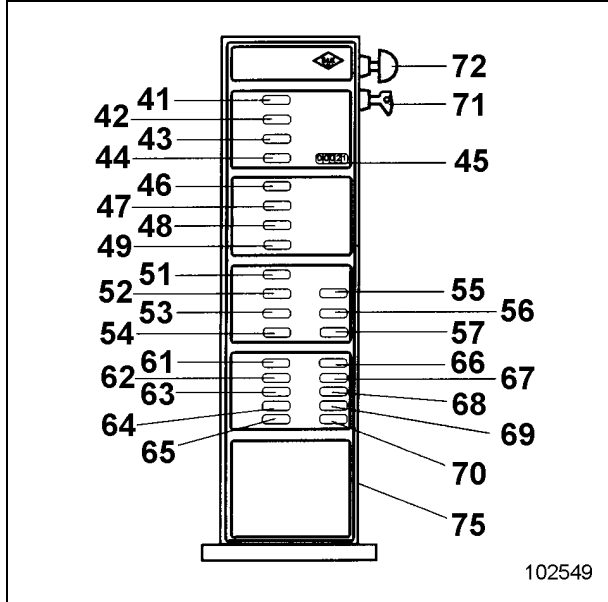

Fig. 2
- EMERGENCY STOP mushroom-head pushbutton (72, Fig. 2) unlocked